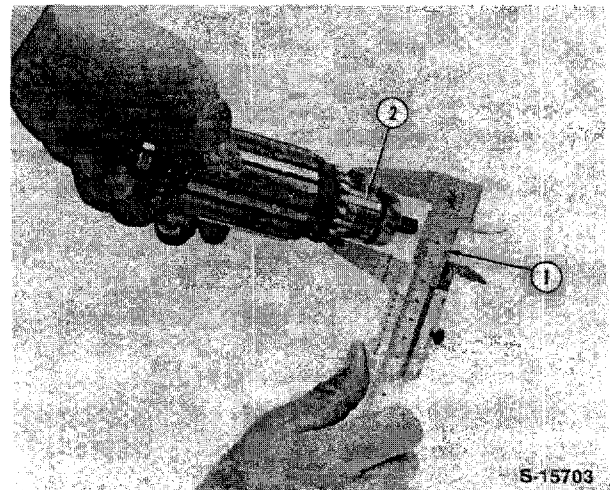

Figure 44
12. Measure the commutator diameter, Figure 44. Replace the armature if worn beyond the following specifications.